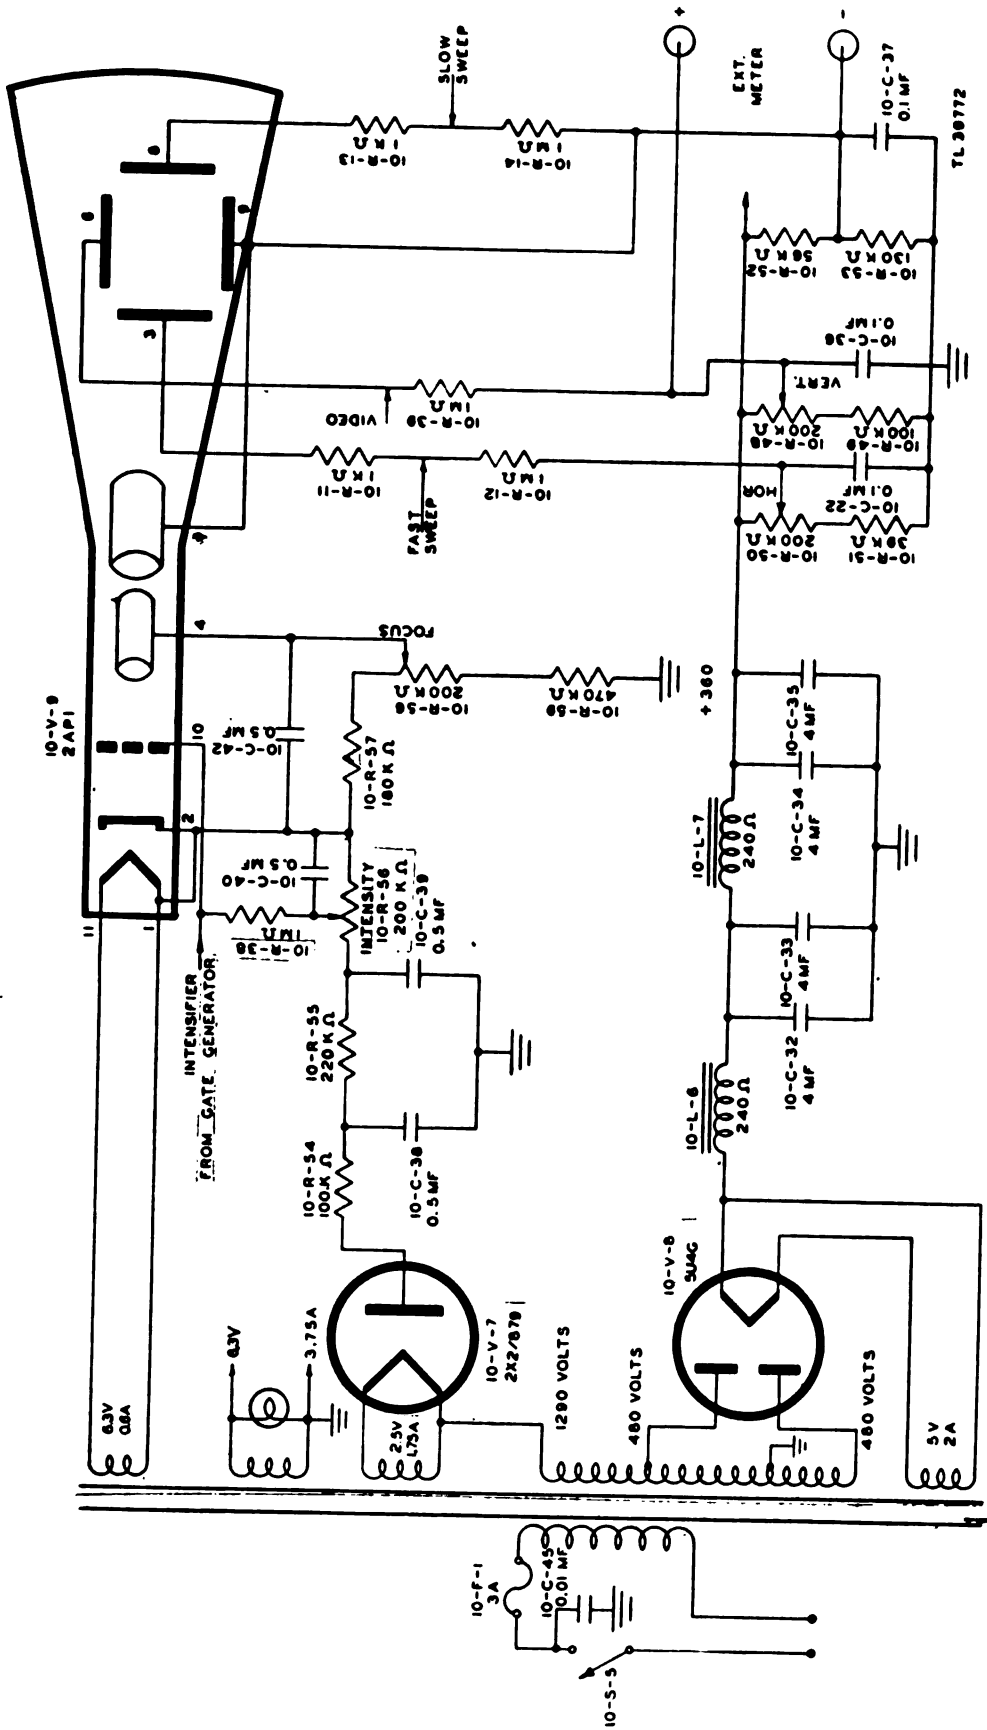

Figure 141. Power supply and cathode-ray tube circuits, simplified schematic diagram.
(9) *Cathode-ray tube* (fig. 141). The cathode-ray tube used in the synchroscope is a type 2AP1 (10-V-9). The tube is somewhat shorter than the usual oscilloscope tube, allowing a short electron travel distance, and is operated with high negative cathode-to-anode potential resulting in